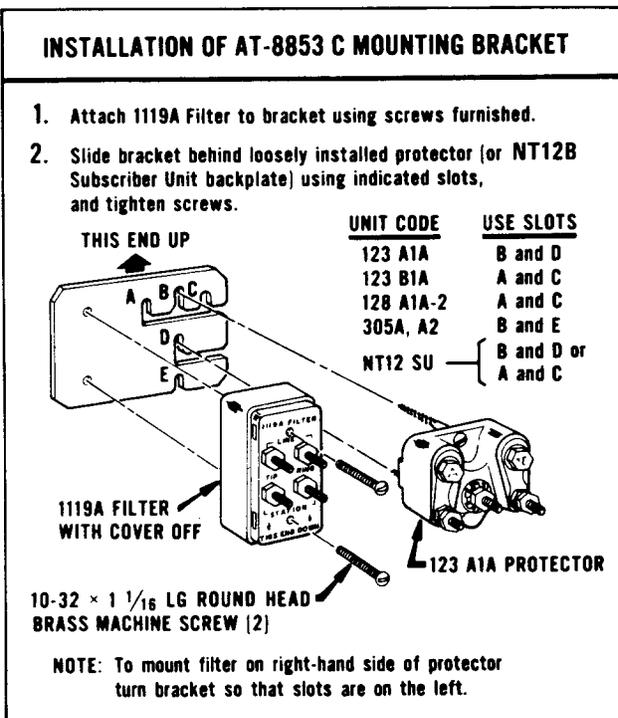

Fig. 7—Label Showing Installation of AT-8853C Mounting Bracket
3.05 When using NT1 or NT2 subscriber units, locate the filter near the station protector if possible, (Fig. 7), to eliminate excessive station wire changes. Disconnect physical station wiring from the protector and connect to STATION terminals on filter, either directly or by mounting a connecting block as a bridging point. Connect from LINE terminals on filter to the protector and test physical subscribers line according to normal procedures. LINE and STATION connections are normally made to the filter using the red (R) and green (G) conductors. Other conductors [e.g. yellow (Y) and black (BK)] can be left unconnected. However, where required by local practice for independent use, such as dial lights, these conductors should be connected to by-pass the 1119A filter.
the filter to the station protector (Fig. 7) to avoid drilling mounting holes.